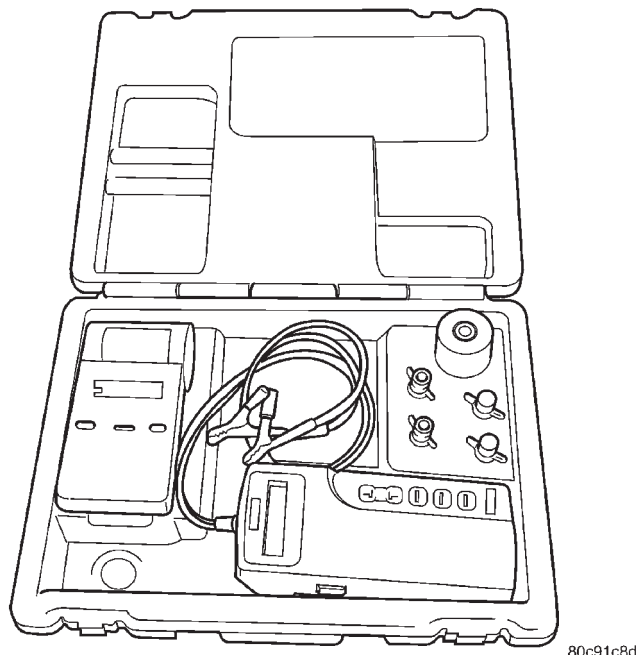

Fig. 14 MIDTRONICS BATTERY AND CHARGING SYSTEM TESTER - Micro420
(3) Connect the tester to (Fig. 14) the battery or jumper posts, the red clamp to positive (+) and the black clamp to negative (-).